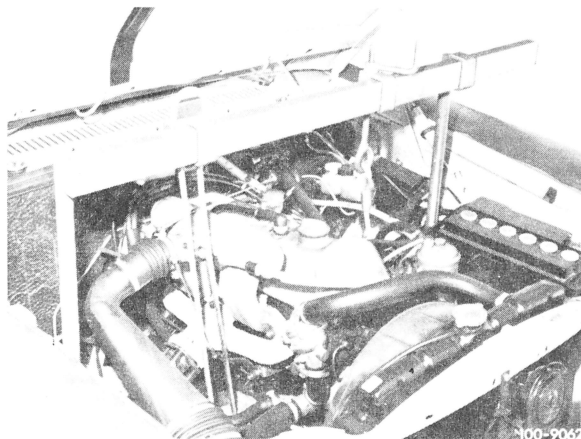

Fig. 2
- 4 Connect carrying stirrup to engine (Fig. 2)